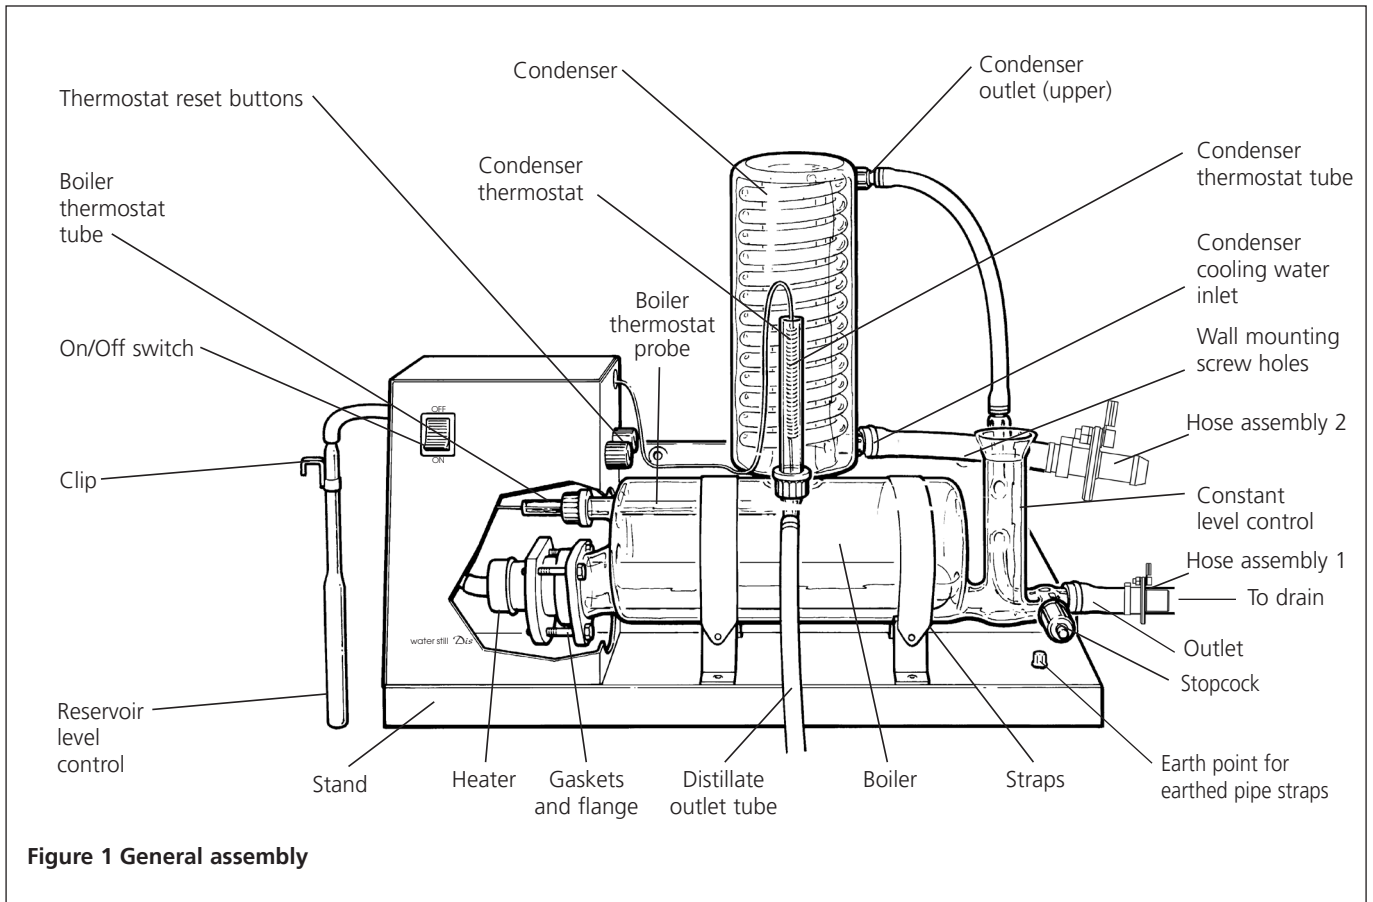

Figure 1 General assembly
8. From the hose kit take the length of 8mm bore hose fitted with the plastic screwthread connectors at either end. Referring to **figure 1**, screw one end of the hose to the condenser outlet (upper) and the other end to the glass thread on the constant level control.
Identify the "condenser" thermostat and place the free end of its probe into the thermostat tube. Carefully bend the capillary to ensure that it does not obstruct access to the thermostat reset buttons. - **see figure 1**.
16. Take the reservoir control WLS and push the free end of the rubber tubing onto the nozzle on the left hand end of the unit - see **figure 1**.
17. Ensure that the earthed spigot wires are connected to the earth point see fig 1.
2. Ensure that the earth wire is connected correctly to the earth post - see figs 1 and 4c.
4. Ensure that the earth wire is connected to the earth post - see figs. 1 and 4c.